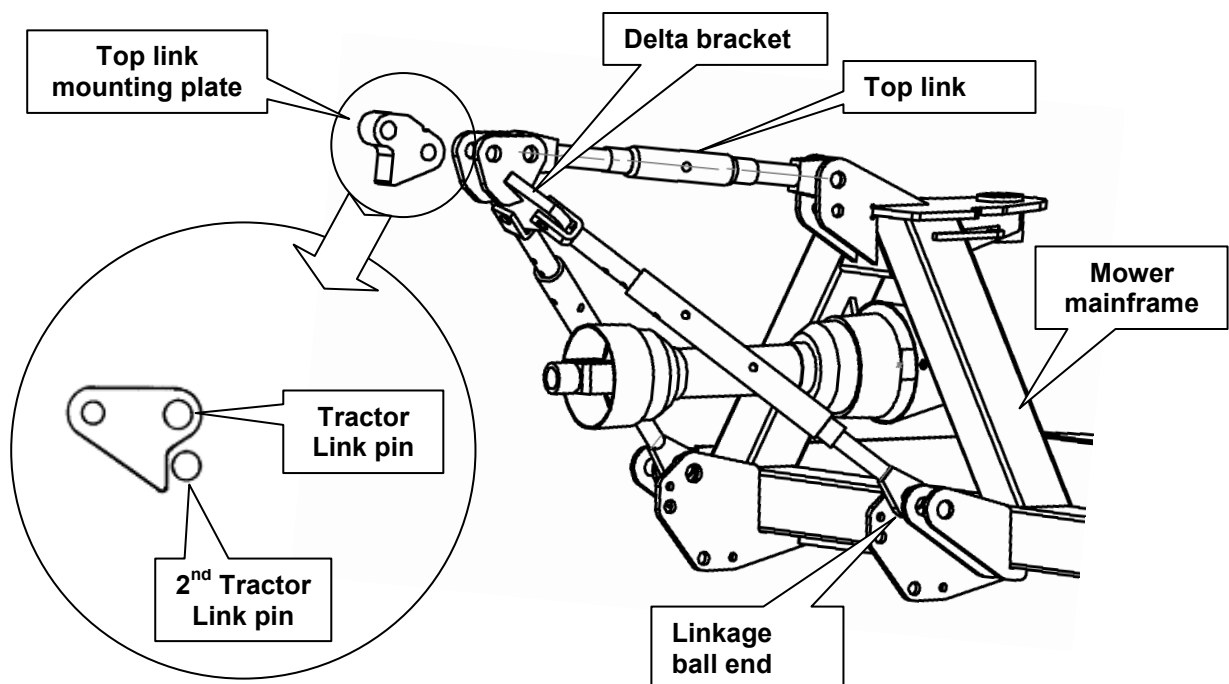

Figure 3.4
- 3.4.2 Prepare the mower by using the top link to join the mower's mainframe's upper hitch point to the clevis on the linkage delta bracket – (See Figure 3.4). Select an appropriate top link mounting plate to fit the tractor. In the top link kit, Category 2 fittings are standard (Two optional plates are supplied for cat 3 and 28mm diameter pins and a category 1 bush is also included)